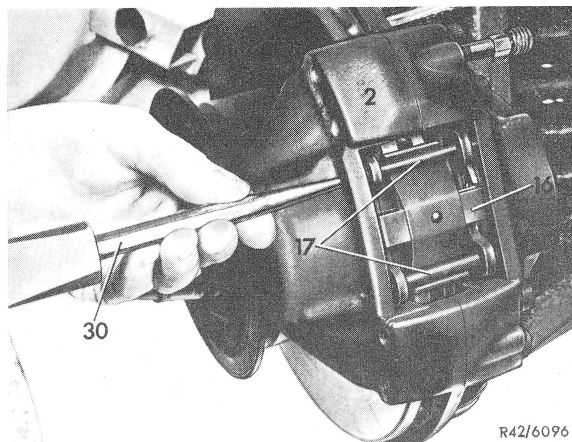

Fig. 4
3 On Teves-brake caliper, knock holding pins (17) out of caliper by means of a punch and remove cross spring (16) (Fig. 4).